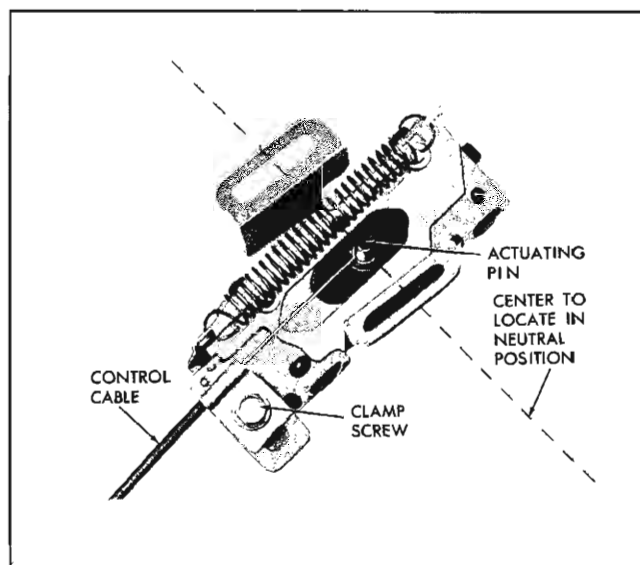

Fig. 11-72 Directional Signal Switch—Tilt Wheel
2. Loosen screw (Fig 11-72) and remove control cable assembly from switch.
3. Move carrier in switch to neutral position (Fig. 11-72).